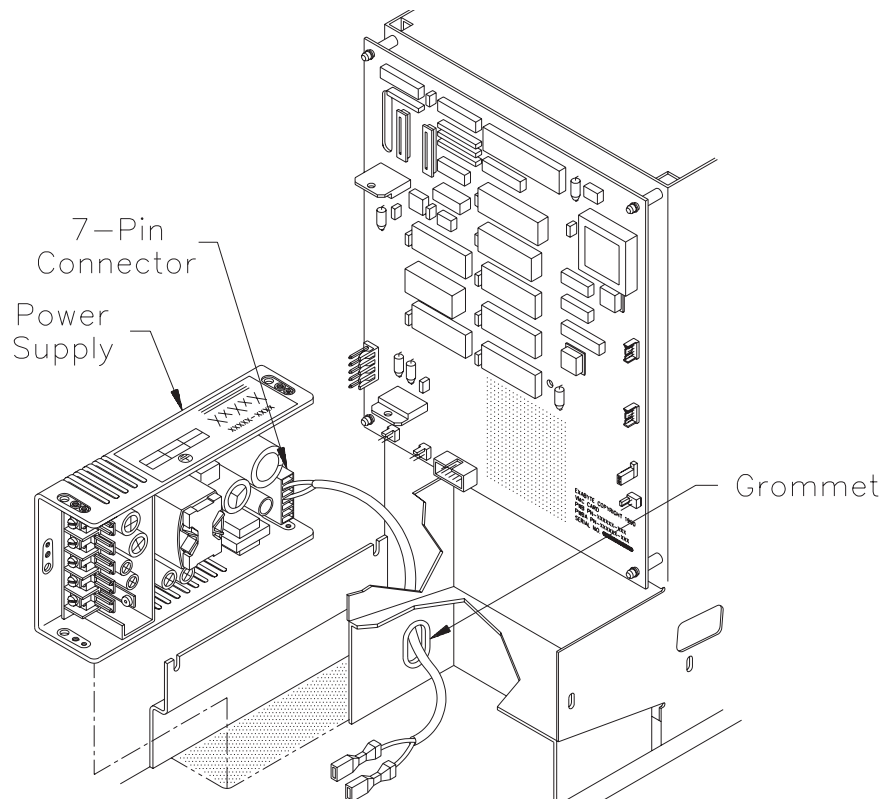

Figure 15-2 7-pin connector on the power supply
5. Follow the steps below to remove the 7-pin connector (inserted through an opening at the base of the CTS's mounting frame) and the rubber grommet (positioned in the opening). The 7-pin connector is shown in Figure 15-2.
**Note:** If you are unable to access the 7-pin connector through the opening at the base of the CTS's mounting frame, try removing the fan (as described in Section 16.2), then lifting the power supply out of the chassis with the 7-pin connector still attached, as shown in Figure 15-2.